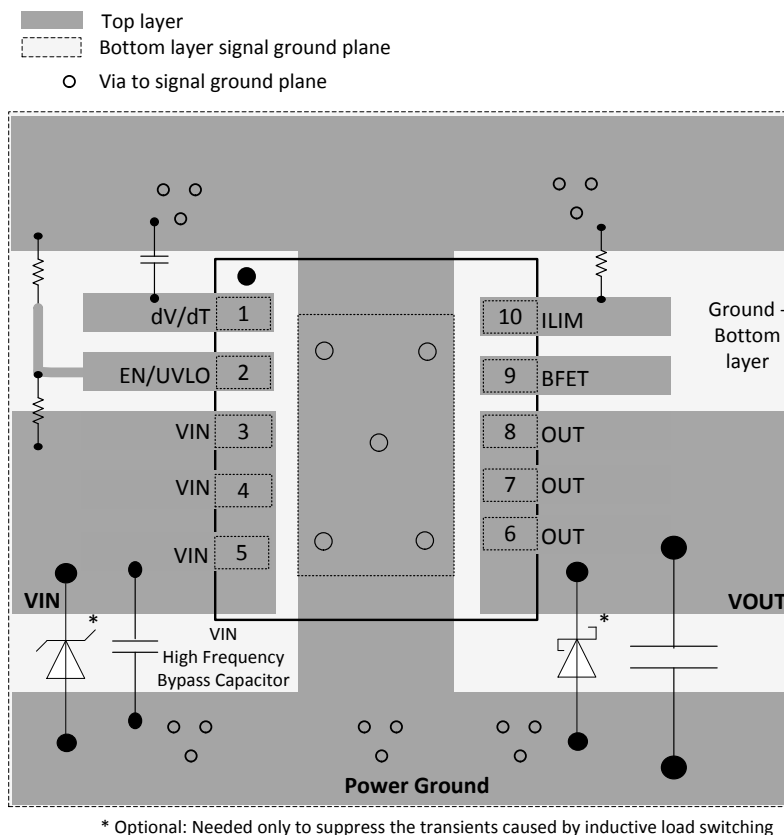

Figure 42. Layout Example
- The optimum placement of decoupling capacitor is closest to the IN and GND terminals of the device. Care must be taken to minimize the loop area formed by the bypass-capacitor connection, the IN terminal, and the GND terminal of the IC. See Figure 42 for a PCB layout example.